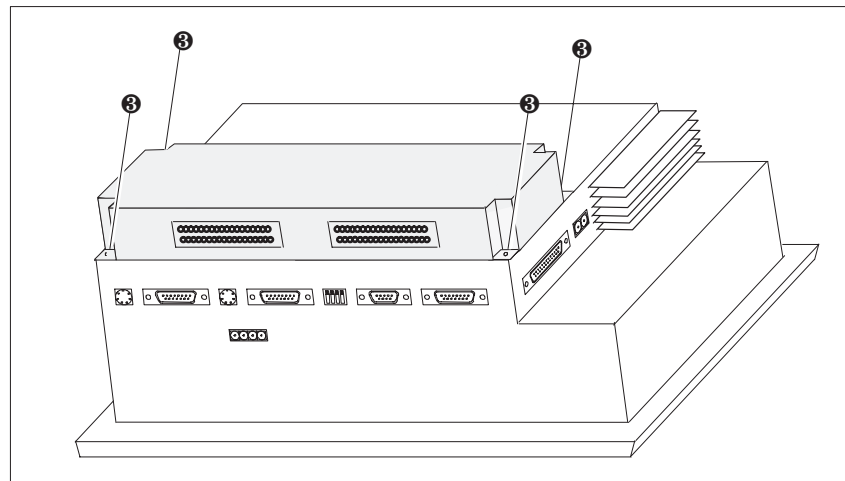

Figure 17-7 Securing the control panel interface (example: TP37)
4. Secure the control panel interface to the Touch Panel with the four screws enclosed (8) (illustrated in an example of the TP37 in figure 17-7).